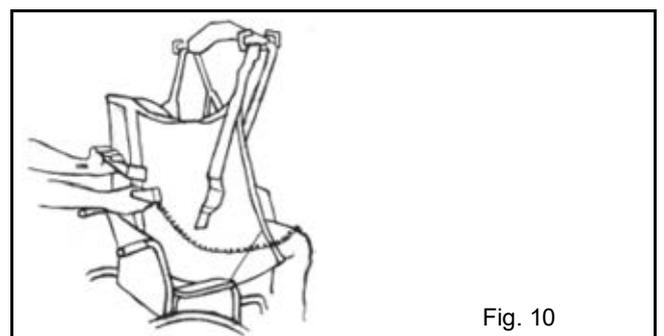

Fig. 10
- 3) Before the patient touches chair seat, and while patient is still moving downward, grasp the sling handle at the mid-line of the patient's back (if not accessible, use handles on the sides of sling). Keep elbow at 90° and grip the centre positioning handle with palm facing up while lowering, and guide the patient into a proper seated position. This manoeuvre when done correctly will not cause shoulder strain (see Fig. 10). The downward motion of the sling will cause the patient to be lowered back into the chair, correctly sitting at a full 90 degrees (instead of sacral sitting) or as close to 90 degrees as physically possible.